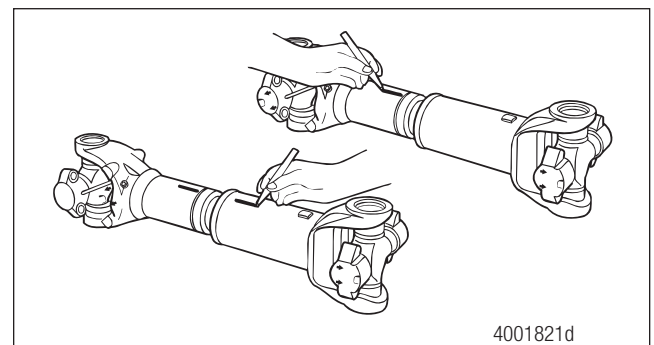

Figure 5.37
3. Mark the slip yoke and slip shaft sections to ensure that you reassemble them into their original positions. Figure 5.37.